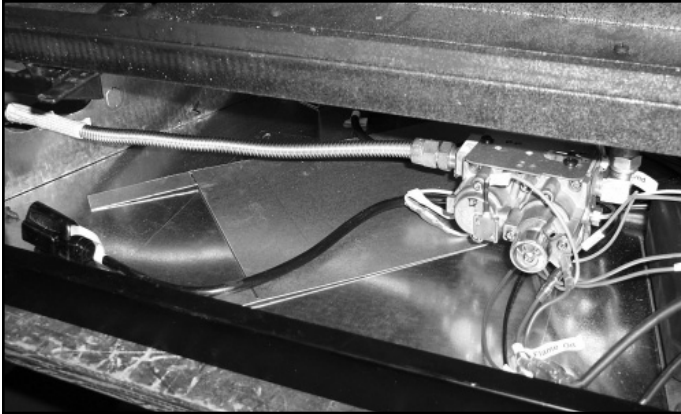

Figure 12.4 Remote Cover Plate - Shipping Location
- Locate cover plate (see Figure 12.4) and remove from appliance.